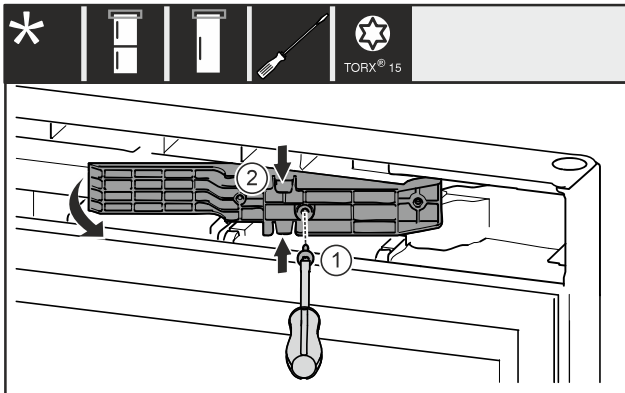

Fig. 13 \*
- ▶ Remove the screw *Fig. 13 (1)\**
- ▶ Gently press the top and bottom of the adapter piece *Fig. 13 (2)* together and pull it out.\*